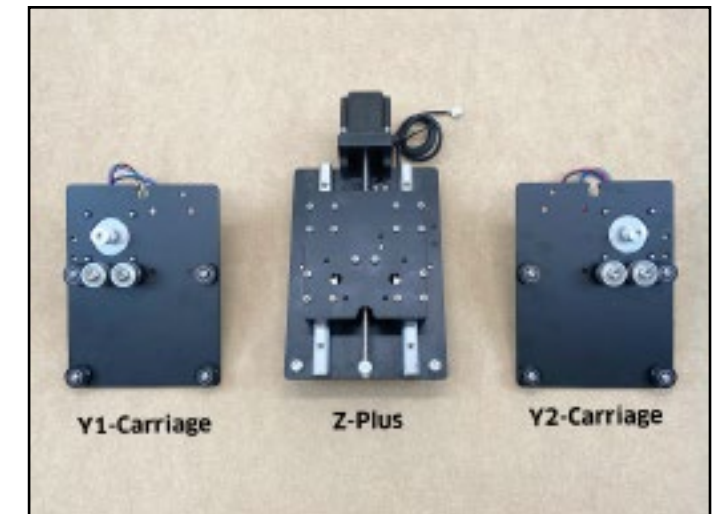

Figure 3-6
1. Gather the three (3) carriages. See **Figure 3-6**: